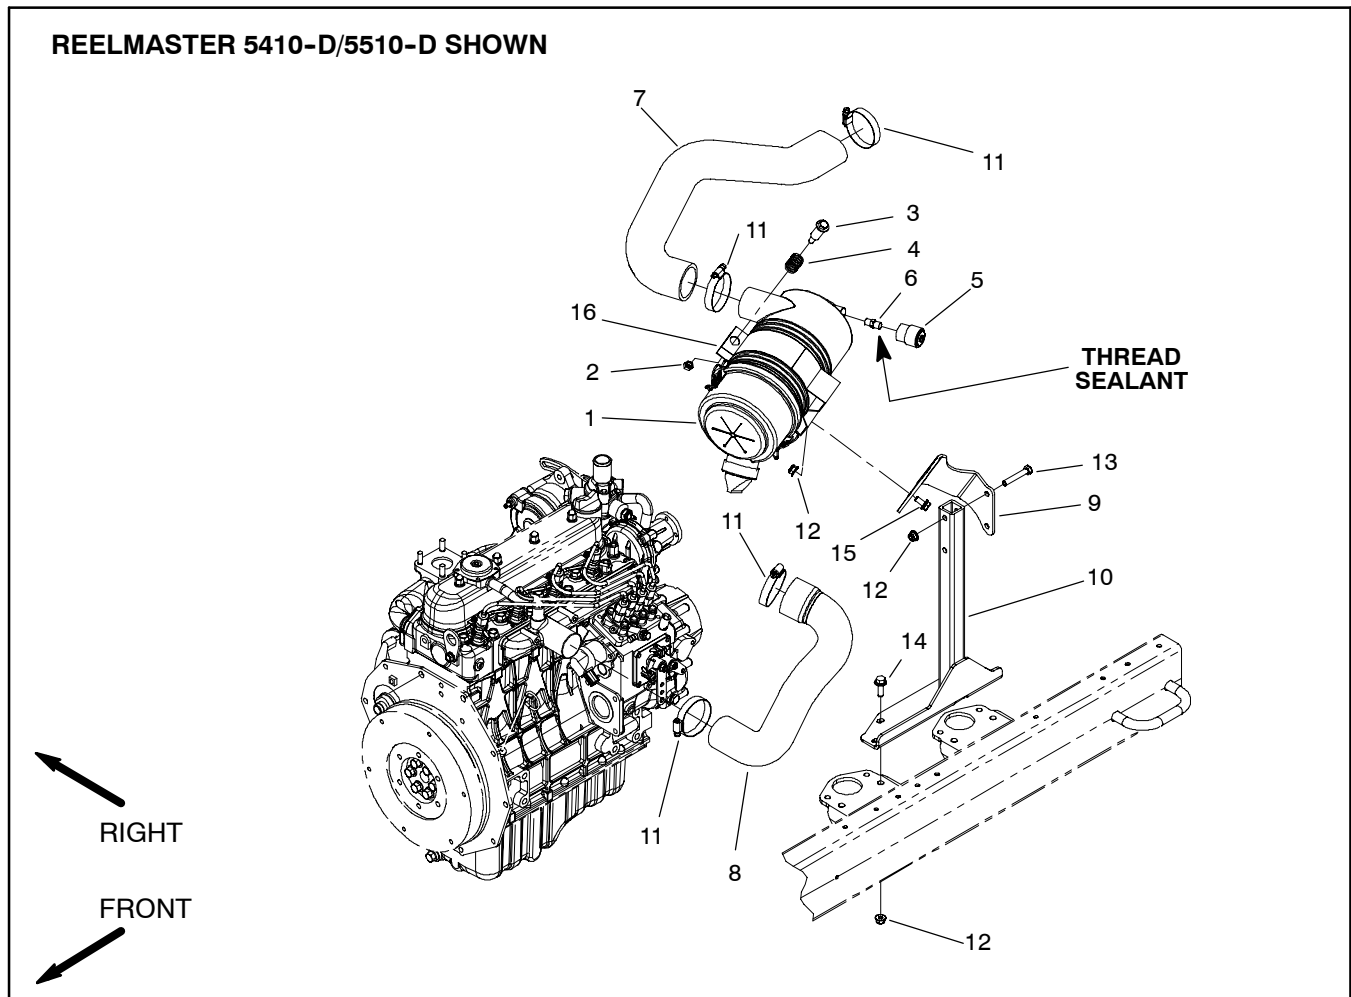

Figure 3
**Removal (Fig. 3)**
2. Remove air cleaner components as needed using Figures 3, 4 and 5 as guides.
**Installation (Fig. 3)**
1. Assemble air cleaner system using Figures 3, 4 and 5 as guides.